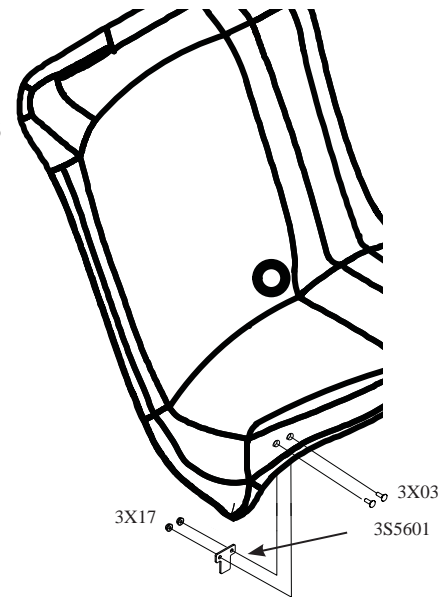

Fig. 6
B. Mount the seat locating tabs (3S5601) to the bottom of the ABS seat using the supplied bolts (3X03) and the lock nuts (3X17). (See Fig. 6)
C. Now, install the (3OSB003-02) lower floppy buckles on the driver and passenger sides. Use the OEM seat belt bolts coming off of the lower C-pillars to fasten the floppy buckles. These bolts were taken out when the second row OEM seat belts were removed or tucked under the trim in the previous section (IV). (See main diagram for orientation)